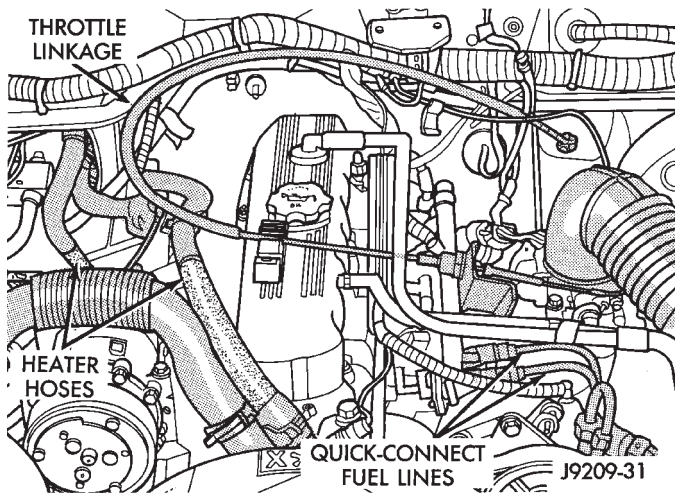
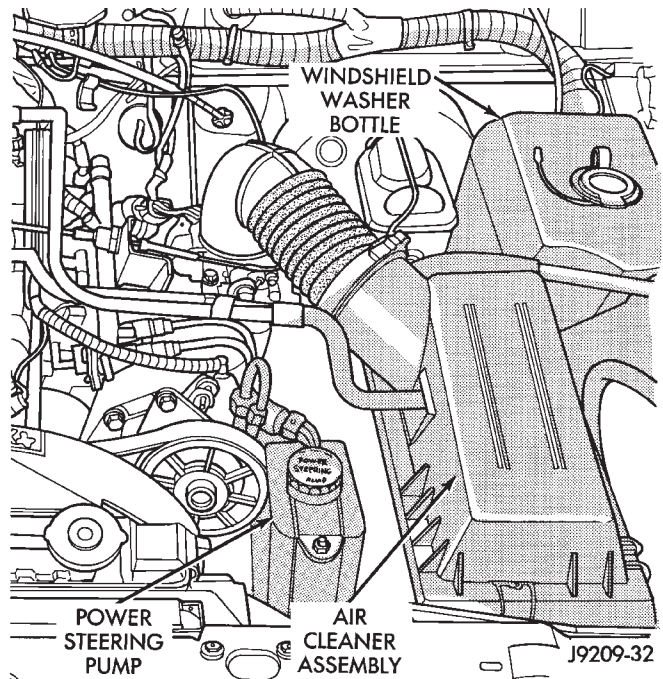

Fig. 16 Heater Hoses (LH Drive Vehicles), Throttle Linkage & Quick-Connect Fuel Lines
Fig. 18 Air Cleaner and Power Steering Pump
- (7) Disconnect the transmission fluid cooler tubing (automatic transmission).
- (8) Remove the radiator/condenser (if equipped with air conditioning).
- (9) Remove fan assembly and install a 5/16 x 1/2-inch SAE capscrew through fan pulley into water pump flange. This will maintain the pulley and water pump in alignment when crankshaft is rotated.
- (10) Disconnect the heater hoses (Figs. 16 and 17).
- (11) Disconnect the throttle linkages (Fig. 16), speed control cable (if equipped) and throttle valve rod.
- (12) Disconnect the oxygen sensor wire connector.
- (13) Disconnect the wires from the starter motor solenoid.
- (14) Disconnect all fuel injection harness connections.
- (15) Disconnect the quick-connect fuel lines at the fuel rail and return line by squeezing the two retaining tabs against the fuel tube (Fig. 16). Pull the fuel tube and retainer from the quick-connect fitting (refer to Group 14, Fuel System for the proper procedure).
- (16) Remove the fuel line bracket from the intake manifold.
- (17) Remove the air cleaner assembly (Fig. 18).
- (18) If equipped with air conditioning, remove the service valves and cap the compressor ports.
- (19) Remove the power brake vacuum check valve from the booster, if equipped.
- (20) If equipped with power steering (Fig. 18):